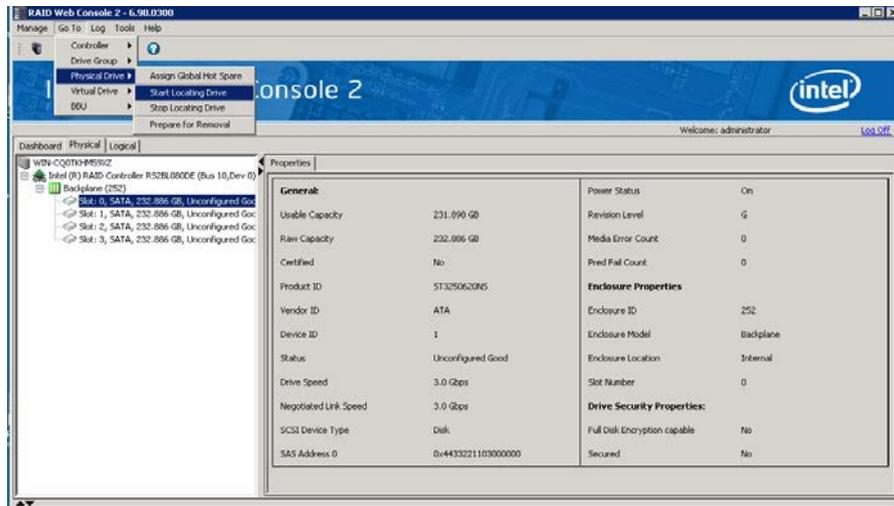

Figure 128. Locating a Physical Drive
3. Click **Start Locating Drive** (see Figure 128).